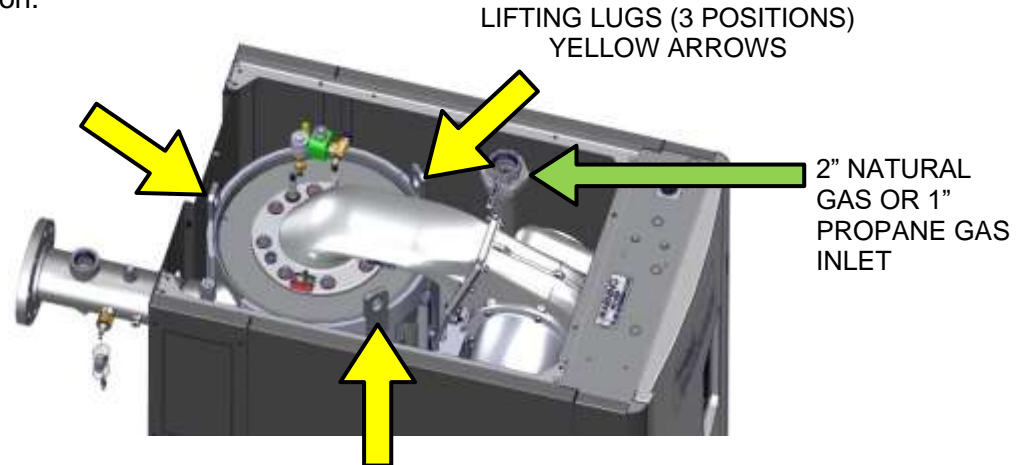

Figure 2-3: Boiler Lifting Provisions – BMK 1500/2000 Shown
Three lifting lugs are provided at the top of the primary heat exchanger as shown in Figure 2-3. Remove the front top panel from the unit to provide access to the lifting lugs. Remove the four (4) lag screws securing the unit to the shipping skid. Lift the unit off the shipping skid and position it on the **4 inch to 8 inch (10.2 cm to 20.3 cm)** housekeeping concrete pad (required) in the desired location.